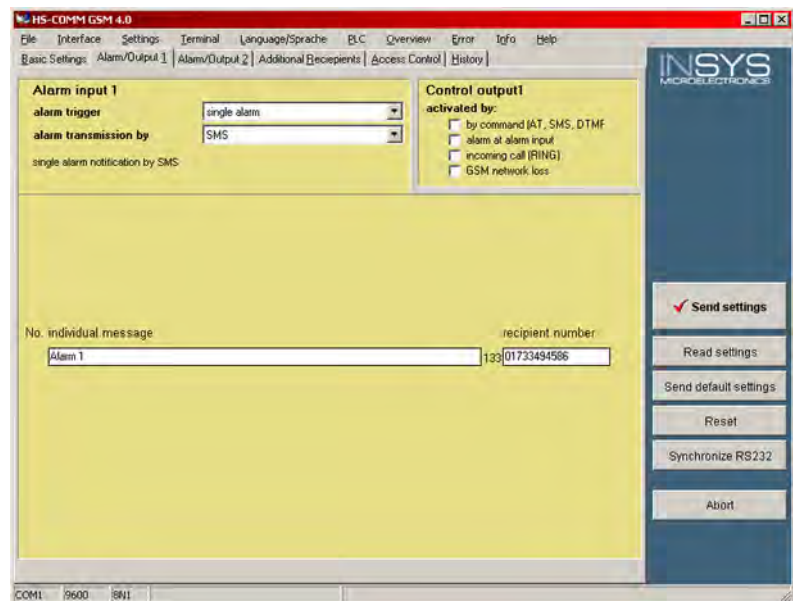

Fig. 181: GSM modem - alarm/output 1
2. ➤ Set up the modem as shown in (Fig. 181) on the “Alarm/Output 1” tab.